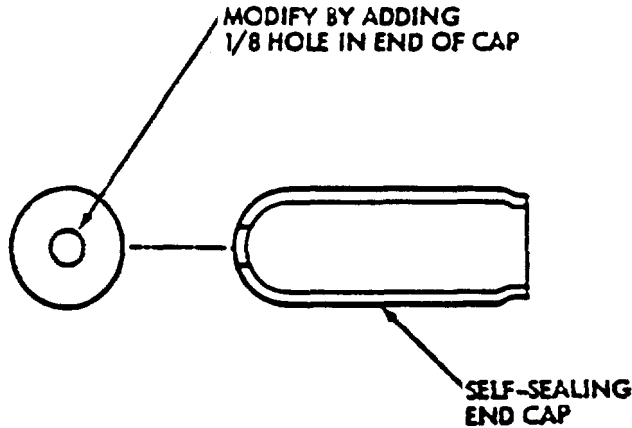

Figure 19. Modifying Self-Sealing End Cap
d. Modify self-sealing end cap as shown in Figure 19.